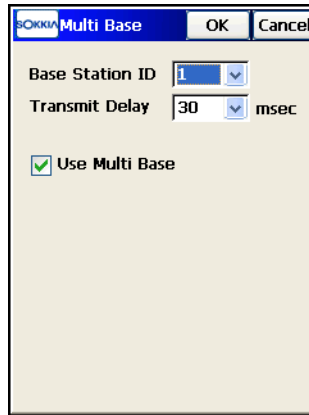

Figure 8-10. Multi Base
2. To set up **Base 1**, connect the controller to the receiver at Base 1. Tap **Survey ▶ Start Base**. The *Multi Base* screen displays (Figure 8-10 on page 8-11).
*Transmit Delay*. For example, select 11 as the Base Station ID and select 30 *msec* for the Transmit Delay (Figure 8-10).